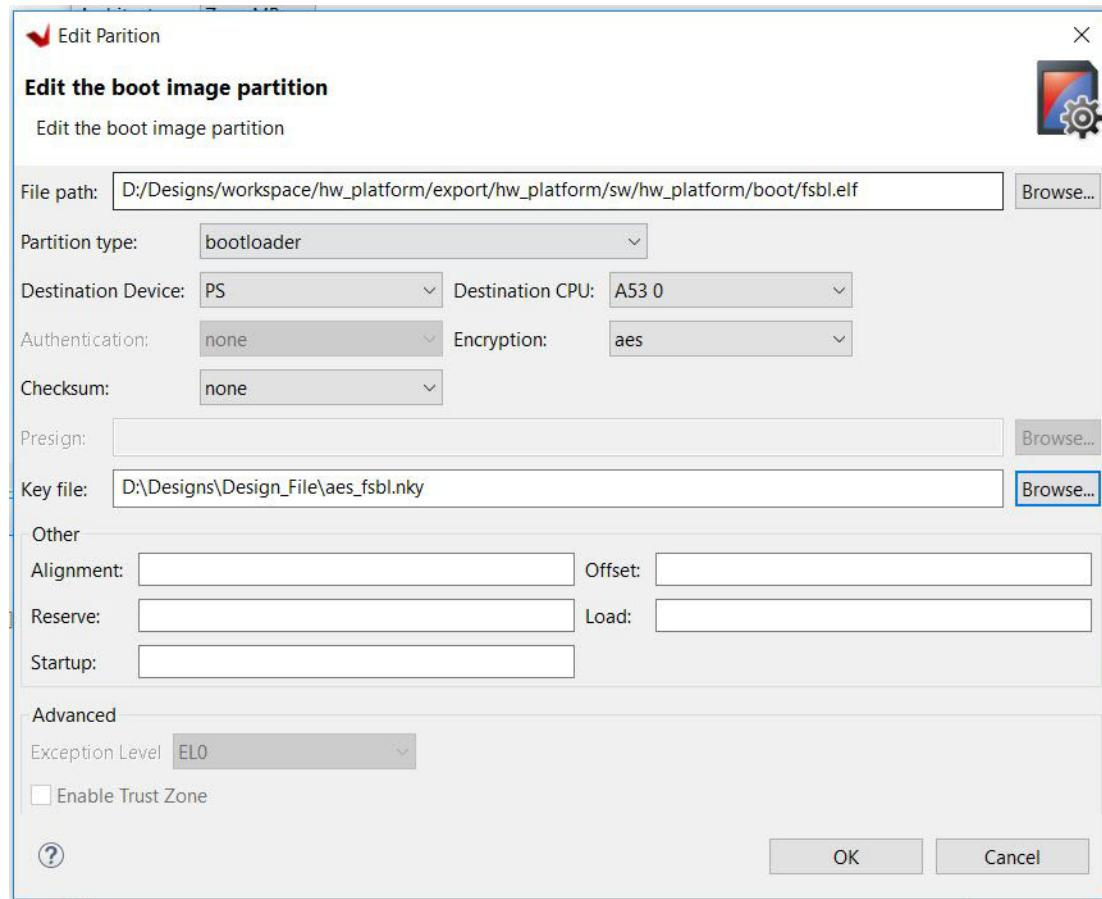

Figure 18: Encryption for fsbl Boot Image
7. Double-click `fsbl` to open edit partition window and change the encrypted option to AES, and browse to `aes_fsbl.nky` for key file (Figure 18). Click **OK**.